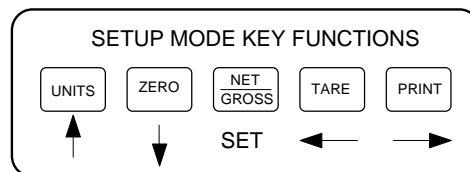

Figure 6-1: Setup Menu Key Assignments
3. Use the four directional keys (shown in Figure 6-1 below) to adjust the displayed value to the actual test weight value. Increase the flashing digit by pressing the UNITS key. Decrease the flashing digit by pressing the ZERO key. Pressing the PRINT key or the TARE key will change the position of the flashing digit.
2. The display will momentarily show "**CAL 0**", followed by a flashing zero. Use the four directional keys (shown in Figure 6-1) to adjust the displayed value to the zero calibration value.
2. The display will momentarily show "**CAL 1**", followed by a flashing zero. Use the four directional keys (shown in Figure 6-1) to adjust the displayed value to the span calibration value.